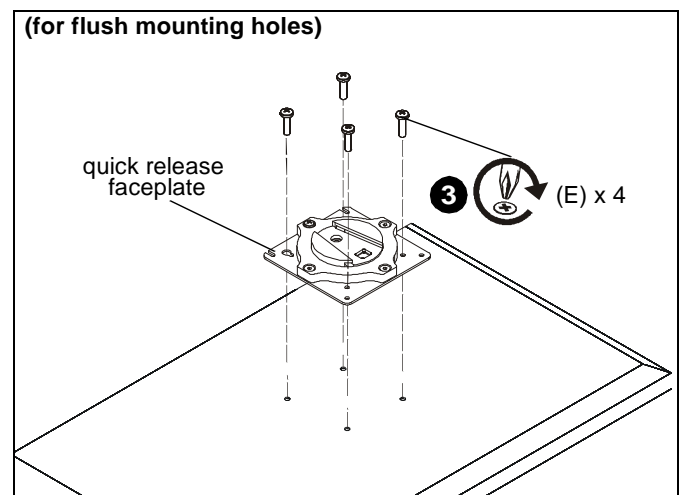

Figure 4
- Carefully install four M4x10mm Phillips screws (E) through corresponding holes on faceplate and into the mounting holes on the display. (See Figure 4)